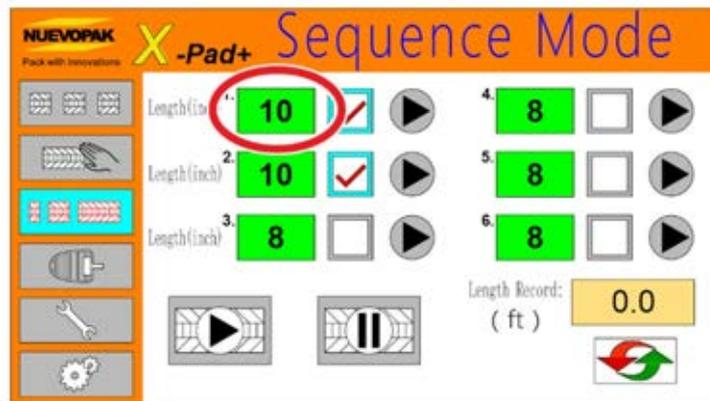

Figure 40 Change Pre-Set Output Length - Sequence Mode
1. Select the Sequence Mode in the Menu Bar (refer to Figure 40).